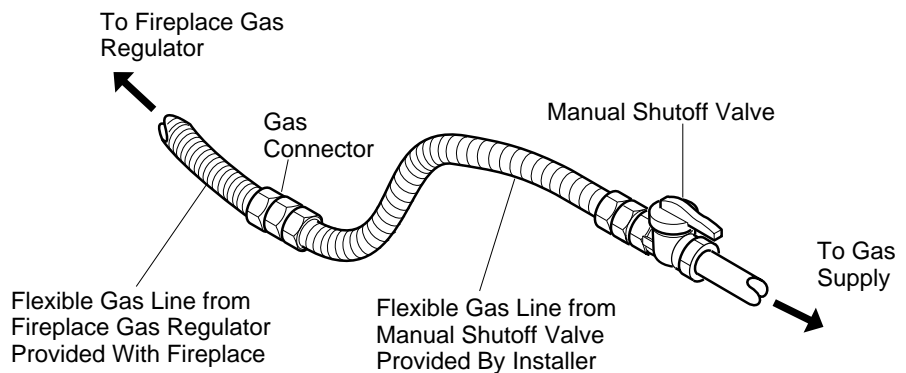

Figure 18 - Attaching Flexible Gas Lines Together
NOTICE : Most building codes do not permit concealed gas connections. A flexible gas line is provided to allow accessibility from the fireplace (see Figure 18). The flexible gas supply line connection to the manual shutoff valve should be accessible.
4. Apply pipe joint sealant lightly to male threads of gas connector attached to flexible gas line (see Figure 18). Connect flexible gas line to flexible gas line attached to gas regulator of fireplace (see Figure 18).